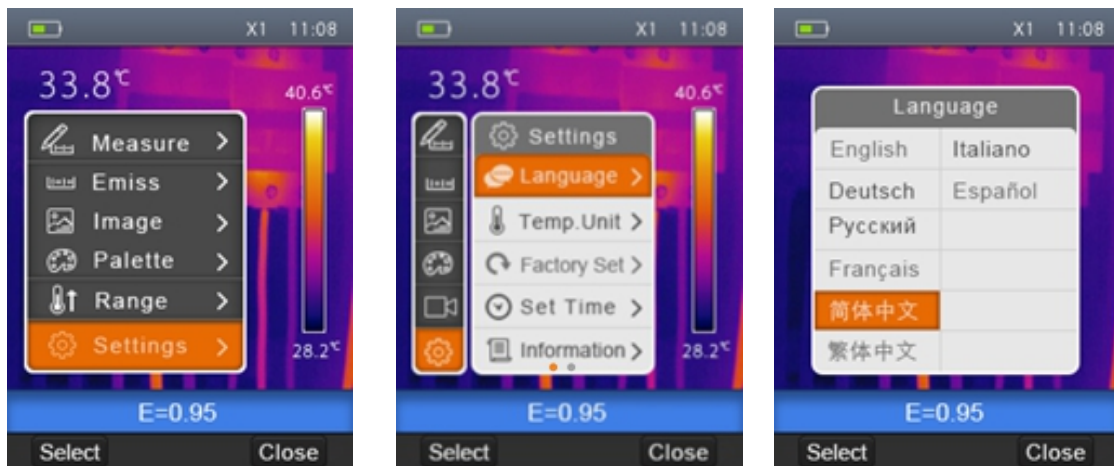

Fig. 8: System language setting
1. Select the item “Language” with the keys \oplus or \ominus and press the key \mathbb{E} . The screen Fig. 8 – Right side is shown on the display.